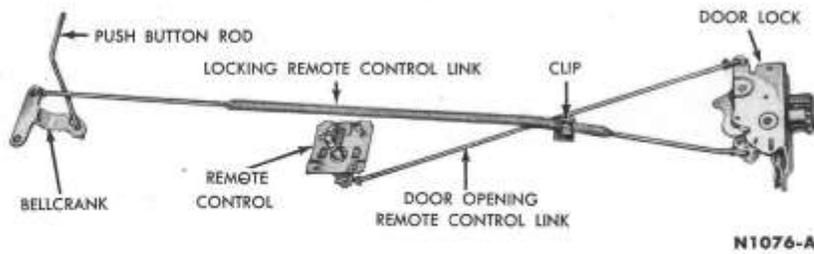

FIG. 8—Rear Door Lock and Remote Control
3. After raising the glass and removing the lock retaining screws, remove the lock, and disconnect the locking remote control link (Fig. 8).